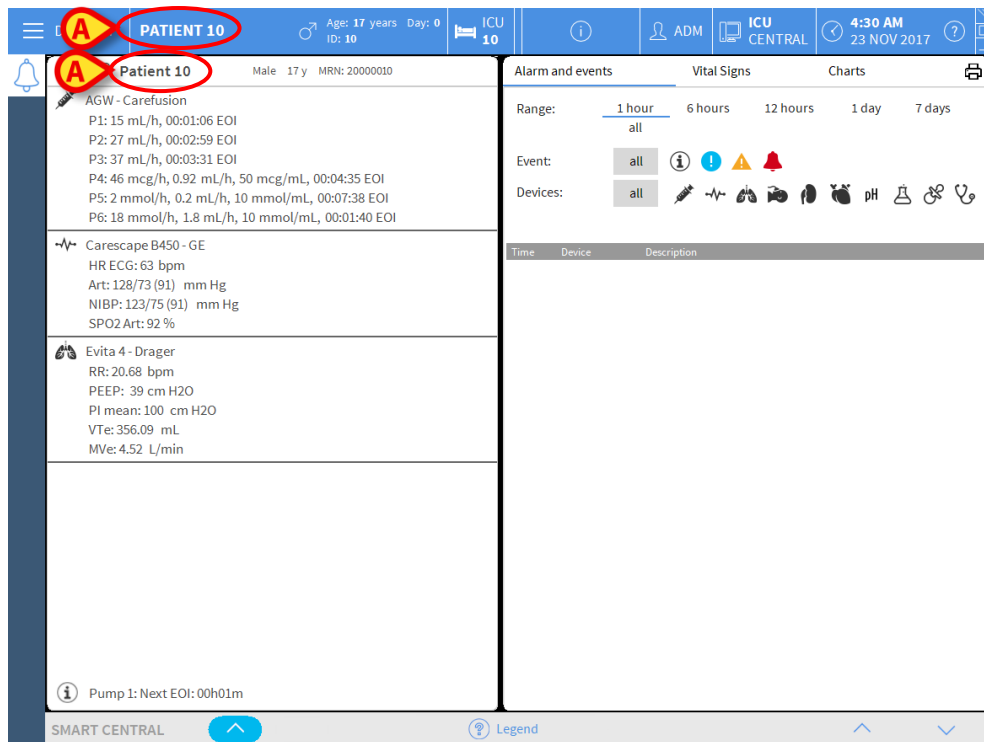

Fig 98
- Click **Yes** to admit the patient. The Digistat Smart Central screen related to that patient is then displayed. A temporary name is automatically assigned (Patient 10 - Fig 98 **A**)